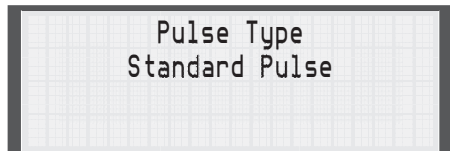

Fig. 5.23
2. Press the Pulse Type key and use the Arrow keys to scroll to the waveform type you want to use for the primary waveform, then press the Enter key. The available waveform types of the LR-24 are: Direct Current (non-pulsed), Standard pulse, and Burst of pulses (**Fig. 5.23**).